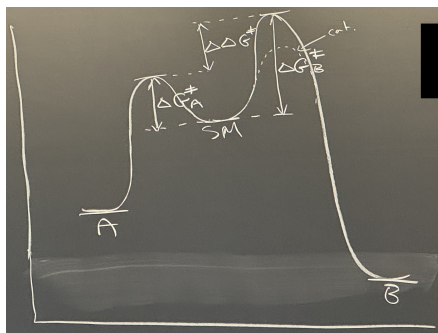

Figure 6.2: Energy variables relevant to kinetic selectivity.
- Energy diagram of a kinetically controlled reaction (Figure 6.2).